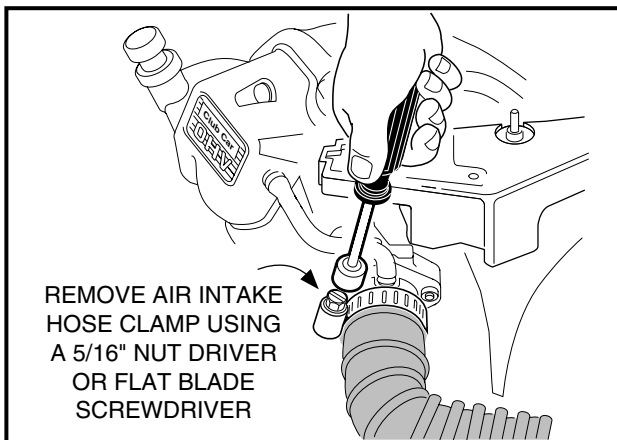

FIGURE 10-11
- 2.2. Using a 5/16" nut driver, disconnect the air intake hose from the carburetor (**Figure 10-11**)